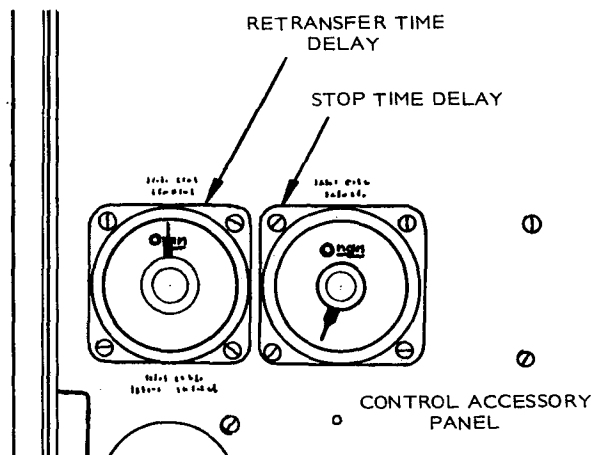

FIGURE 13. STOP AND RETRANSFER TIME DELAY RELAYS
2. Set the time delay by turning the adjustment knob in the center of the delay. See Figure 13.